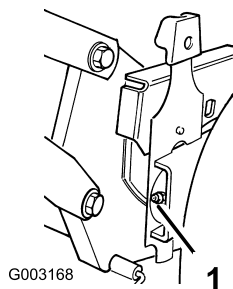

Figure 23
2. Wipe the grease fittings with a clean rag (Figure 23).